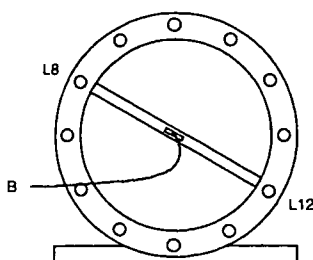

Figure 6 Flux probe in position L8 - L12, seen from patient support end
10. Position the **linear flux probe** in position L8 - L12 (see Figure 6). The flux probe holder must be positioned against the front ring of the head coil. The flux probe holder must be used without the 360° rotation knob.